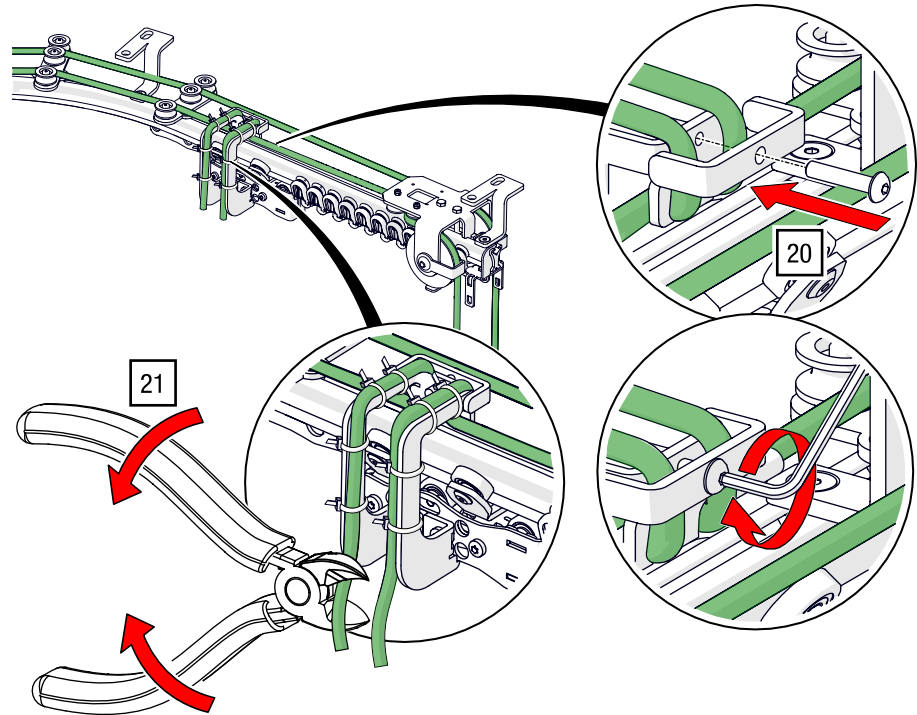

Fig. 83: Top cord operation – Fasten, cut, and burn the ends of the cord
20. Clamp both cord ends in the second master runner using a TORX® key T30 and 11 Nm and (see Fig. 83).
21. Cut off the ends and burn them, so that the rope does not unravel (see Fig. 83).